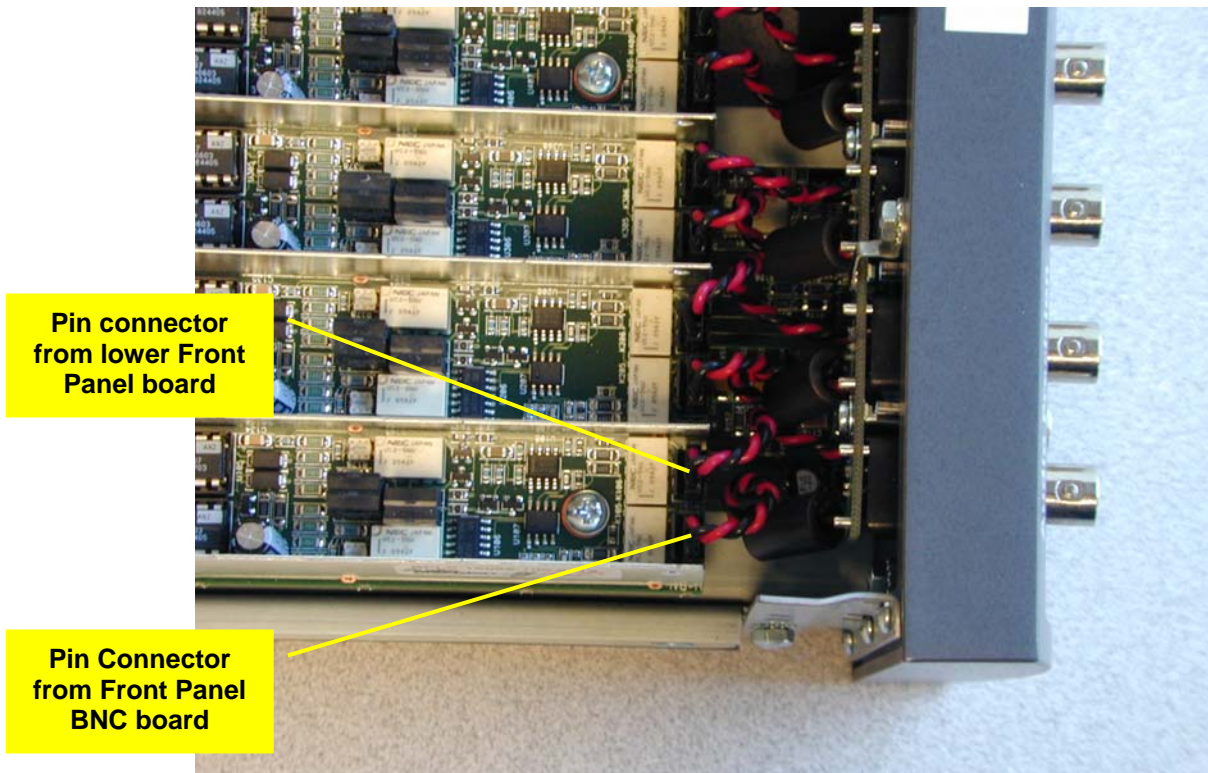

Figure 3 BPLX Module Analog Connections to the Front Panel Module
22. Re-attach the 16 Analog cable connectors from the APX-585 Front Panel to the BPLX module. See Figure 3 for placement of BNC connectors and other Front Panel connectors. Be sure to place the twisted Red and Black cables in the same position as shown in Figure 3.